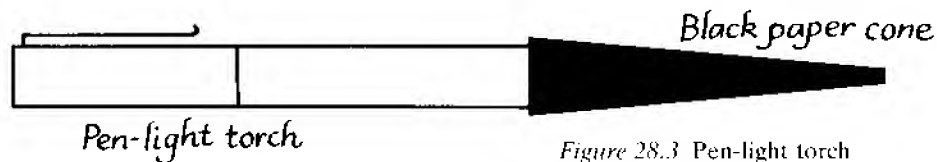

Figure 28.3 Pen-light torch fitted with cone
7. Is it light shining on the iris or light shining through the pupil on to the retina that controls the reaction of the iris? To find out, you will need a narrow beam of light. This can be produced by fitting a cone of black paper to the front of a pen-light torch (see Figure 28.3).